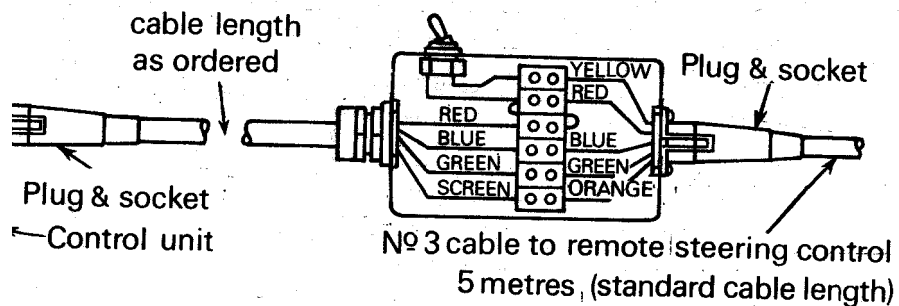

FIG. 7
- 3.4 If a 'hold on switch' or extra cable are provided for the Remote Steering Control a special box fitted with 'hold on switch' is supplied and is connected as shown in Figure 7.